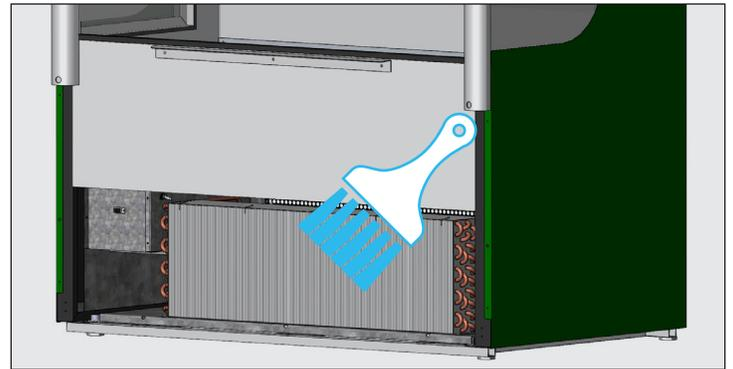

Fig. 4. Never brush across the coil fins.
3. With a stiff bristle brush, carefully clean accumulated dirt from the front condenser coil fins. See fig. 4.